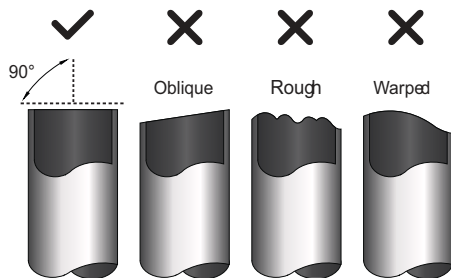

Fig. 8.1
1. Make sure that the pipe is cut at a perfect 90° angle. Refer to Fig. 8.1 for examples of bad cuts